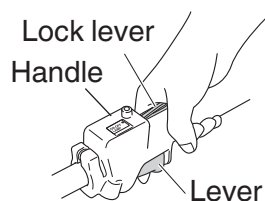

Fig. 24
- Grip the handle from above, press the lock lever and pull the lever to start nylon head rotation. (**Fig. 24**)